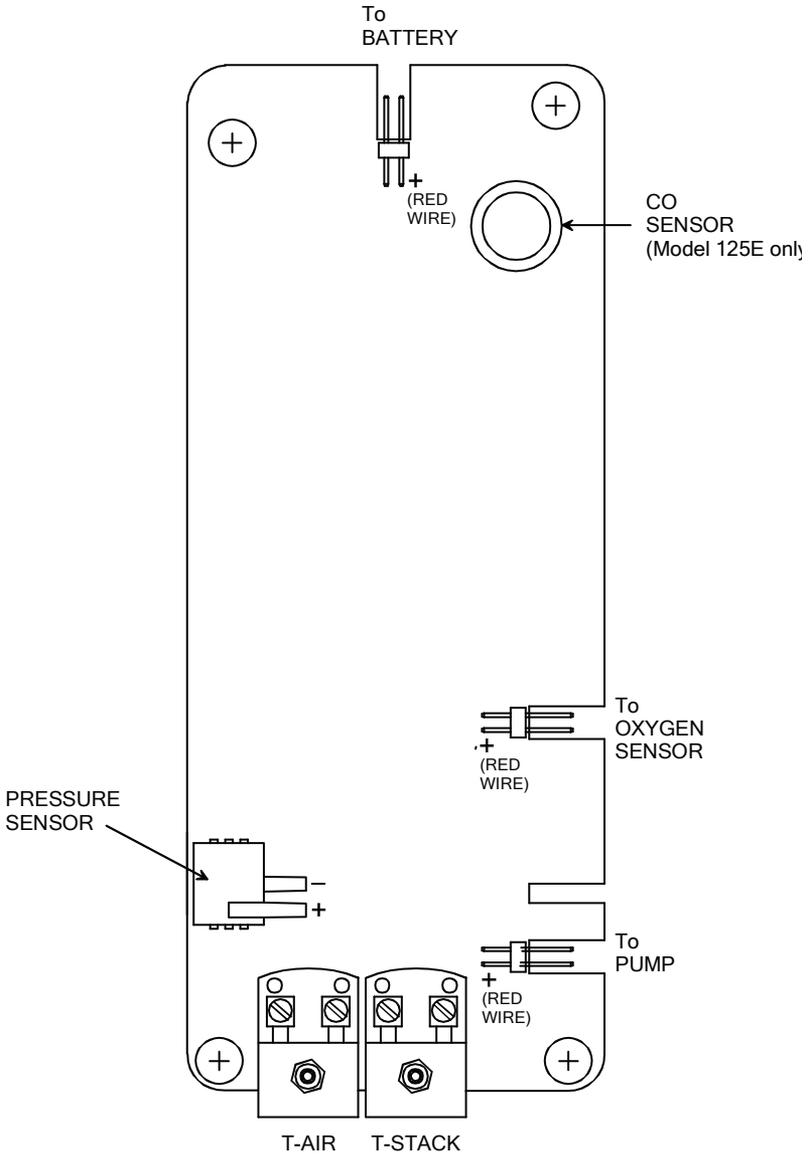

Figure 5-5. PCB Components
6. Plug the oxygen sensor's electrical connector into the printed circuit board (observe polarity, see Figure 5-5), and then reassemble the analyzer.
2. Gently pull CO sensor out of its socket (see Figure 5-5).